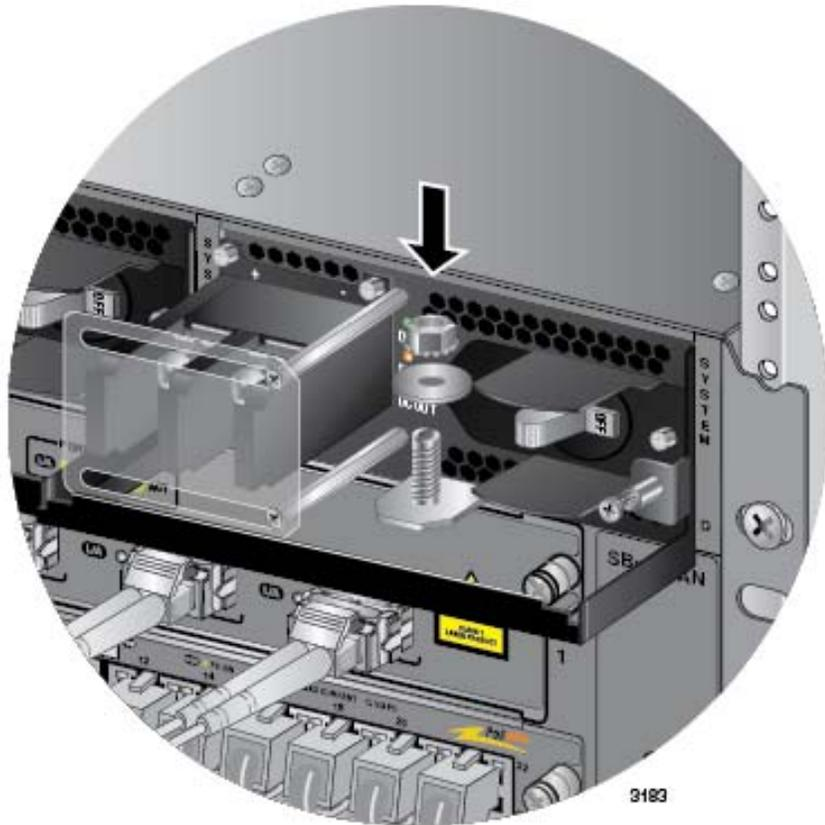

Figure 157. Reinstalling the Nut and Washer on the Grounding Post
10. Reinstall the nut and washer on the grounding post. Refer to Figure 157 on page 246.